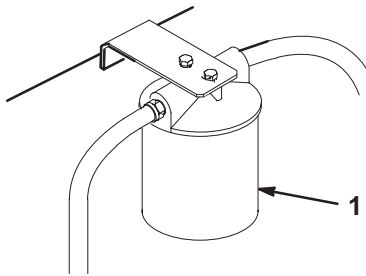

Figure 51
3. Place drain pan under filter, remove the old filter and wipe the filter adapter gasket surface clean (Fig. 51).